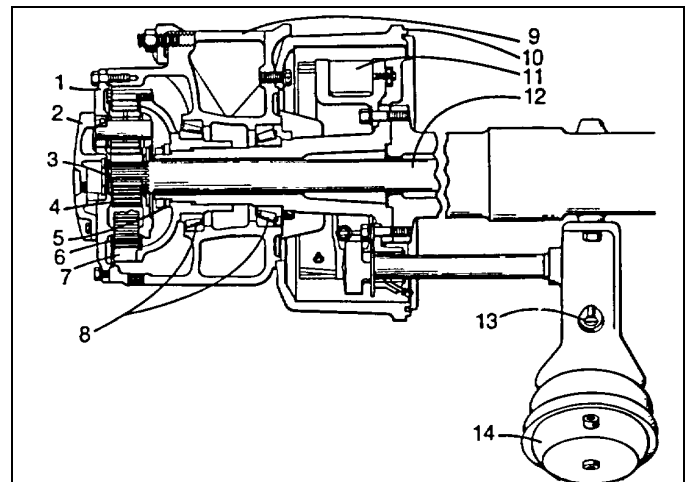

Fig. 3-10
- Adjust the brake slack adjuster (See Fig. 3-10) to change position of the slack adjuster with respect to the brake camshaft. Turning the adjusting screw clockwise will decrease clearance between brake lining and drum.